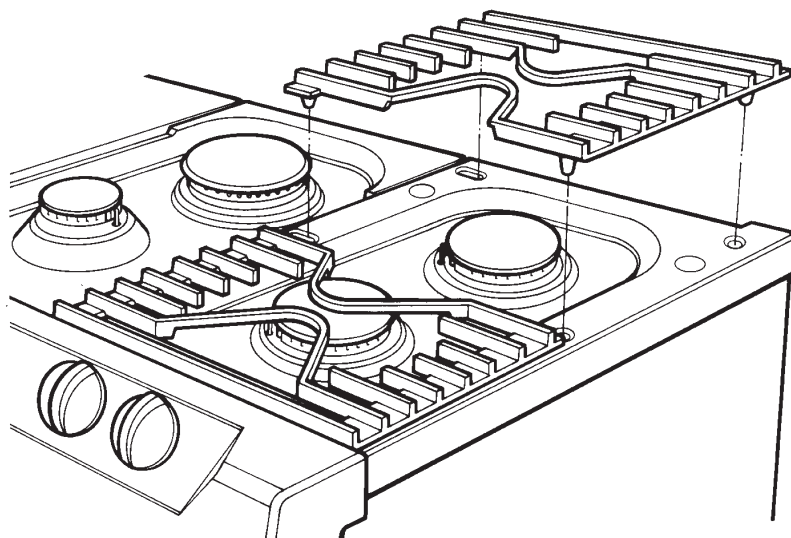

Fig. 21
2. Remove pans supports and burner caps. (See Fig. 21).
3. Remove burner fixing screws (14) and hotplate fixing nuts (8).
4. Lift off burner fixing rings (6).